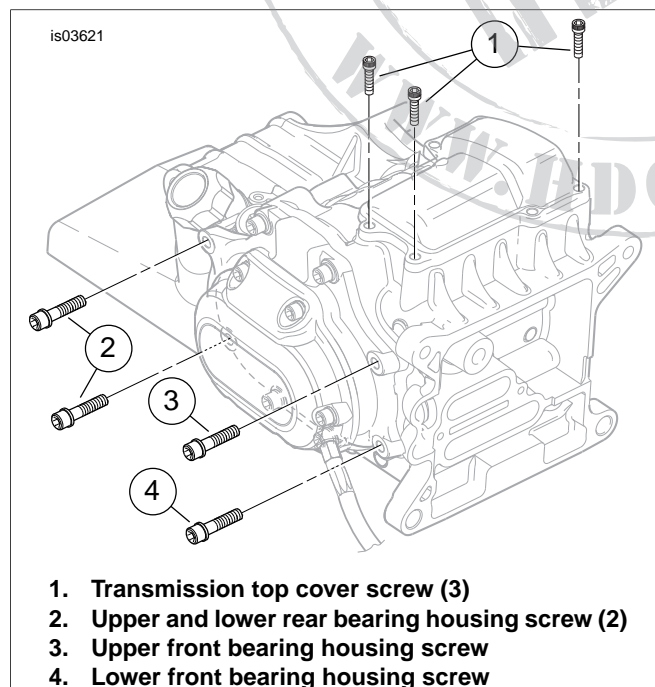

Figure 1. Interface Cover Installation
2. See Figure 1. Remove the two rear bearing housing screws (2) from the side of the transmission case.
6. See Figure 1. Remove the upper front bearing housing screw (3) from the side of the transmission case. Loosen the lower front bearing housing screw (4).
9. See Figure 1. Remove and retain the three socket head cap screws (1) that fasten the right side and left front corner of the transmission cover.